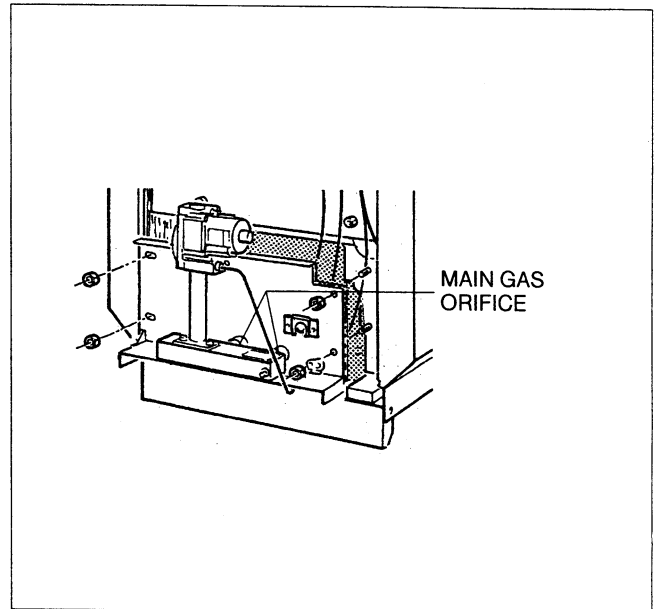

Fig.2
2. Remove main gas orifices and washers from burner assembly fig. 2.